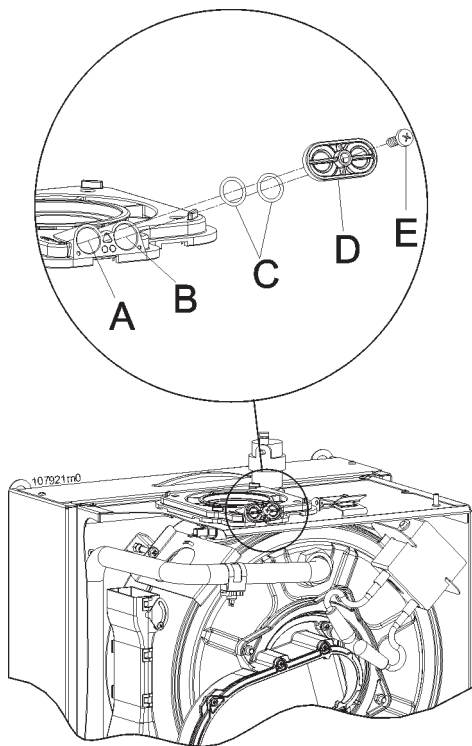

Figure 29 - Combustion analysis connection
- connect a combustion analyzer to the special connection on the flue gas discharge connection "B" shown in figure 29;